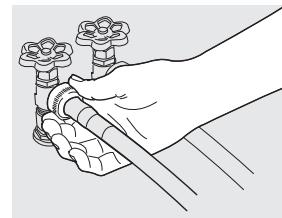

Fig. 5
- Connect the HOT inlet hose to the HOT water supply and the COLD inlet hose to the COLD water supply. (Fig 5).